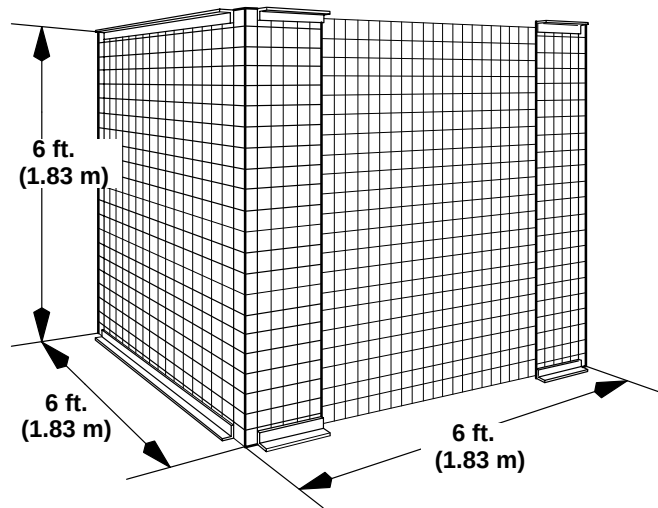

Fig 1
Install the safety fence as shown in Fig 1 or an equivalent safety fence as specified below. Anchor the fence to the floor as specified in Fig 2.
1. The fence **MUST** provide at least a 6 x 6 x 6 ft. (1.83 x 1.83 x 1.83 m) protective area. See Fig 1.